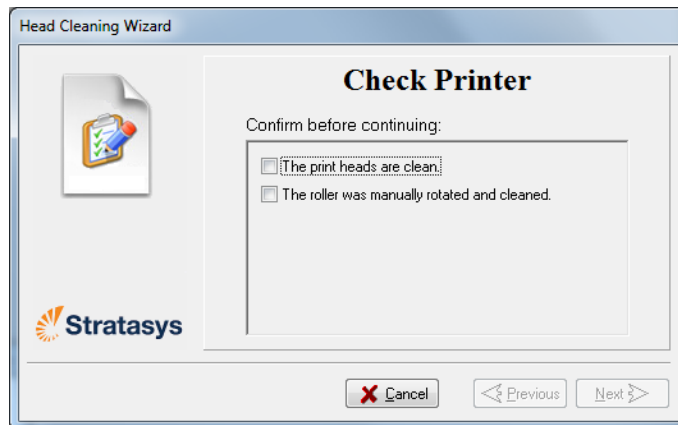

Figure 6-27 Head cleaning wizard—steps 5–11
11. When you have finished cleaning, select the confirmation check boxes in the wizard screen (see Figure 6-27) and click **Next**.